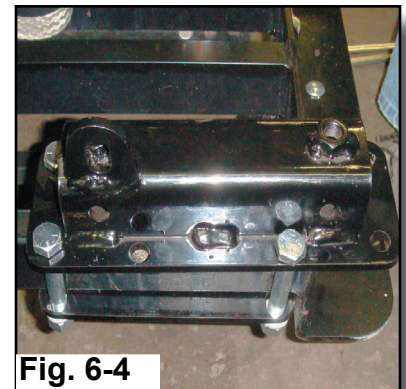

Fig. 6-4
7. Install left mounting bracket on the top of the outer frame rail with hopper brace ("ear") facing forward (Fig. 6-4).